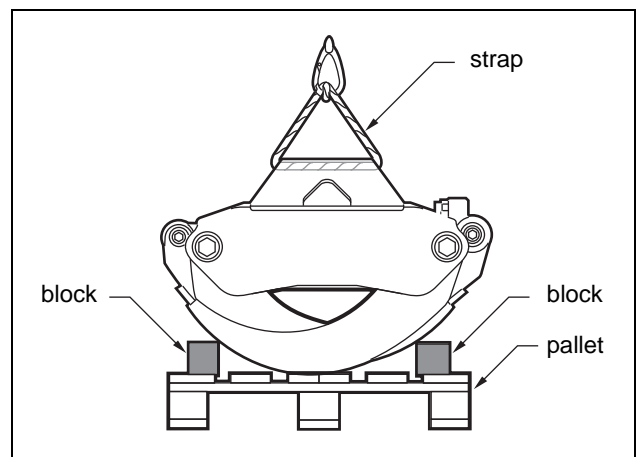

Fig. 11 Arrangement of the grapple at transportation or service
Note! Nail blocks to the pallet base to prevent the grapple from falling during transportation or service. Tie a strap around the stand for safe lifting. See Fig. 11.
1. Place the grapple on a firm base. See Fig. 11.